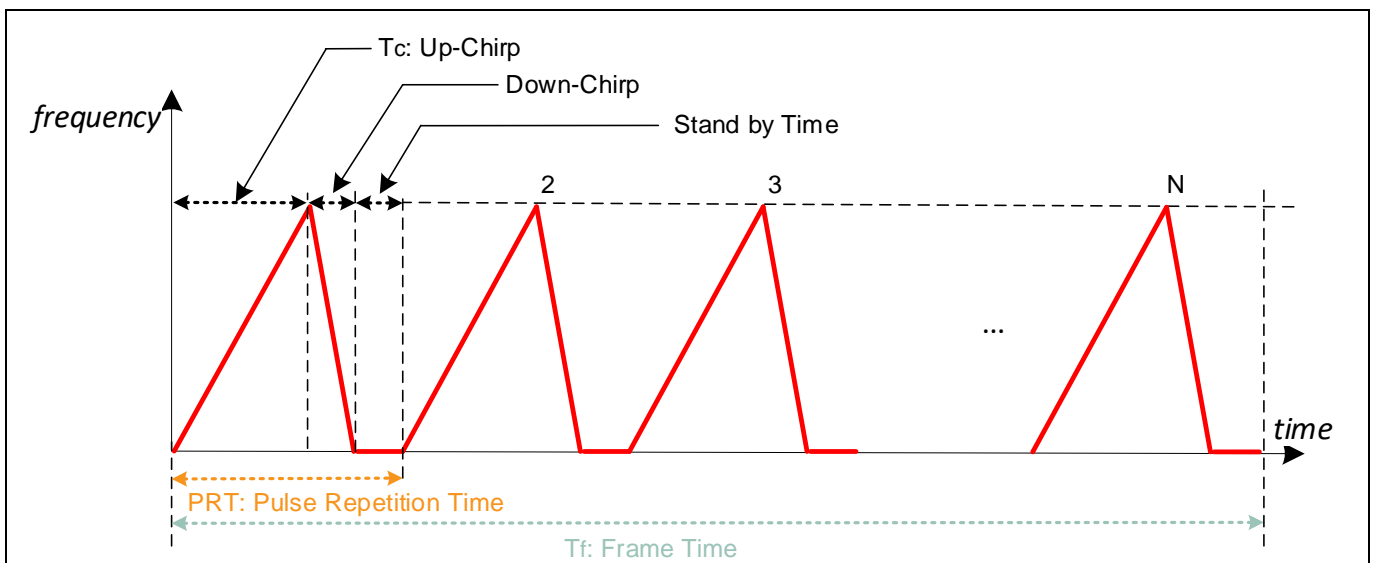

Figure 4 Multiple chirp configuration of FMCW for Doppler estimation
- Frame** – This is a sequence of one or N equally spaced chirps generated with the same set of parameters. All chirps are processed consecutively with minimum delay. Figure 4 shows N multi-chirps signal with frequency as a function of time. The steady time between two chirps, called Chirp Time Delay (CTD), consists of enabling the Phase Locked Loop (PLL) before the (first) up-chirp and settling time after the down-chirp.